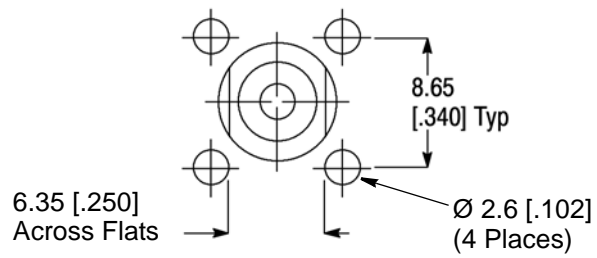

Figure 7
1. Cut the panel using the dimensions provided in Figure 7.